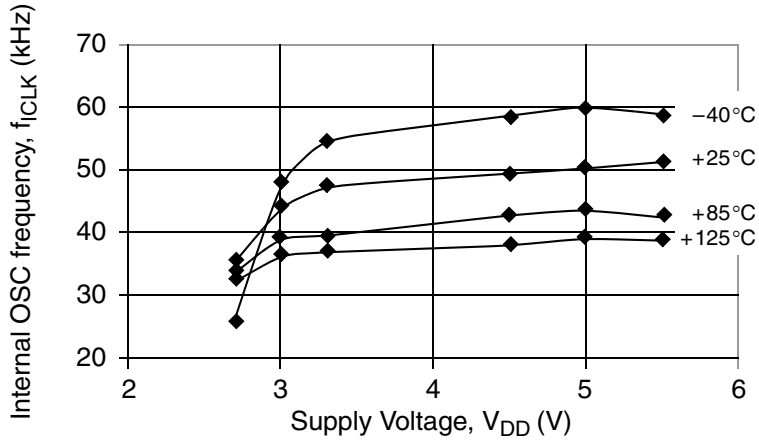

Figure 17-5. Internal Oscillator Frequency
- Typical value reflect average measurements at midpoint of voltage range, 25 °C only. See Figure 17-5 for plot.